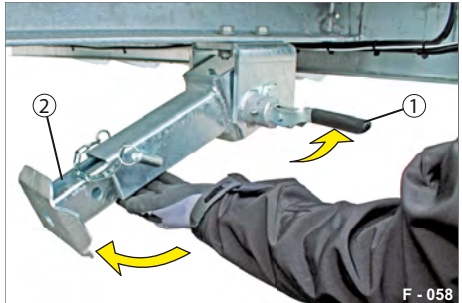

Fig. 42 Folding in folding support
- ▶ Pull the spring bar (Fig. 42/1) into a horizontal position.
- ▶ Fold up the folding support (Fig. 42/2) (horizontally) and lock it with the spring bar (Fig. 42/1).